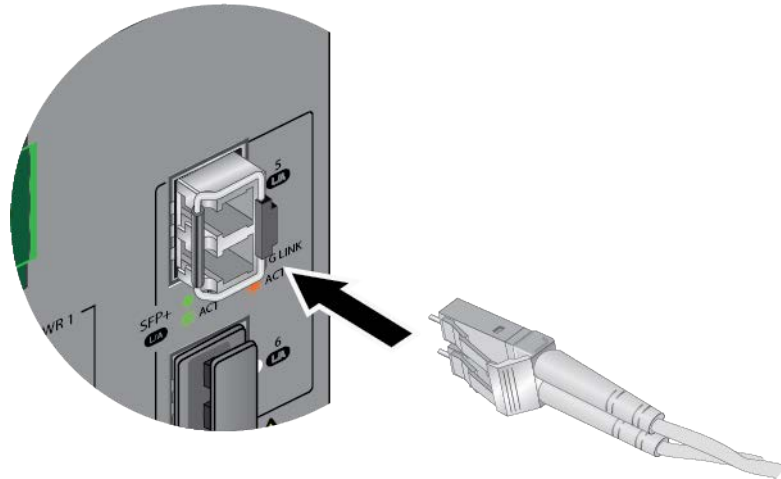

Figure 29. Connecting a Fiber Optic Cable to an SFP+ Transceiver
6. Connect the fiber optic cable to the transceiver. The connector on the cable should fit snugly into the port, and the tab should lock the connector into place. Refer to Figure 29 on page 85.